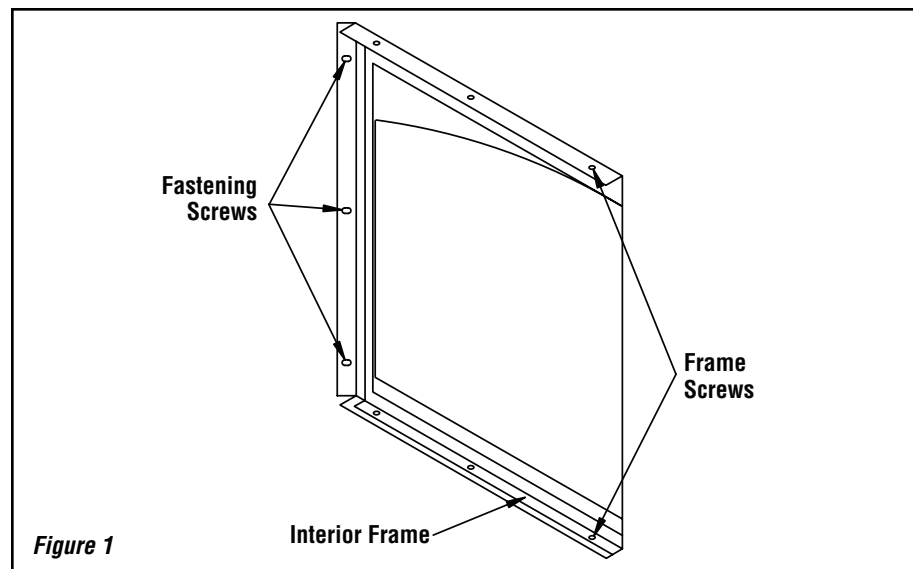

Figure 1
The glass doors can be adjusted by loosening the three (3) screws of the hinges' supports (see fastening screws in **Figure 1**). If a minor angular adjustment is needed, you may loosen only two (2) of the three (3) screws using the other as a pivot point.